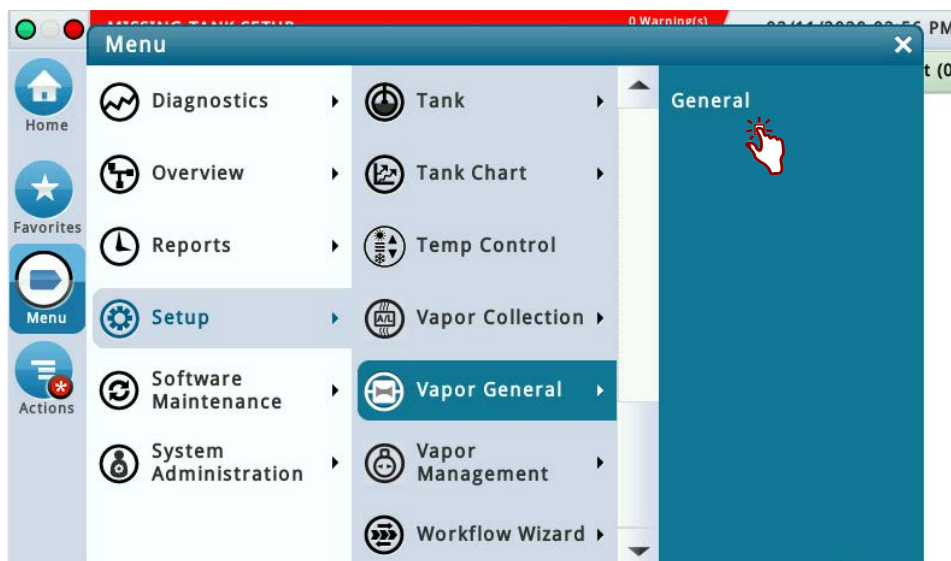
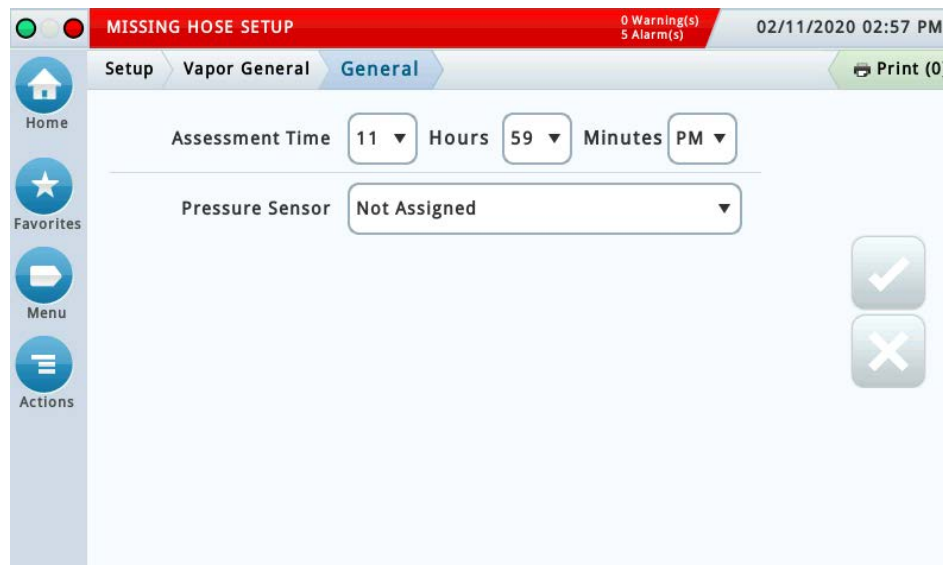

Figure 8. Accessing Vapor General: General Screen
Figure 9. Vapor General: General Setup Screen
1. Go to Menu>Setup>Vapor General>General (Figure 8) to setup Assessment Time and Vapor Pressure Sensor selection (Figure 9).